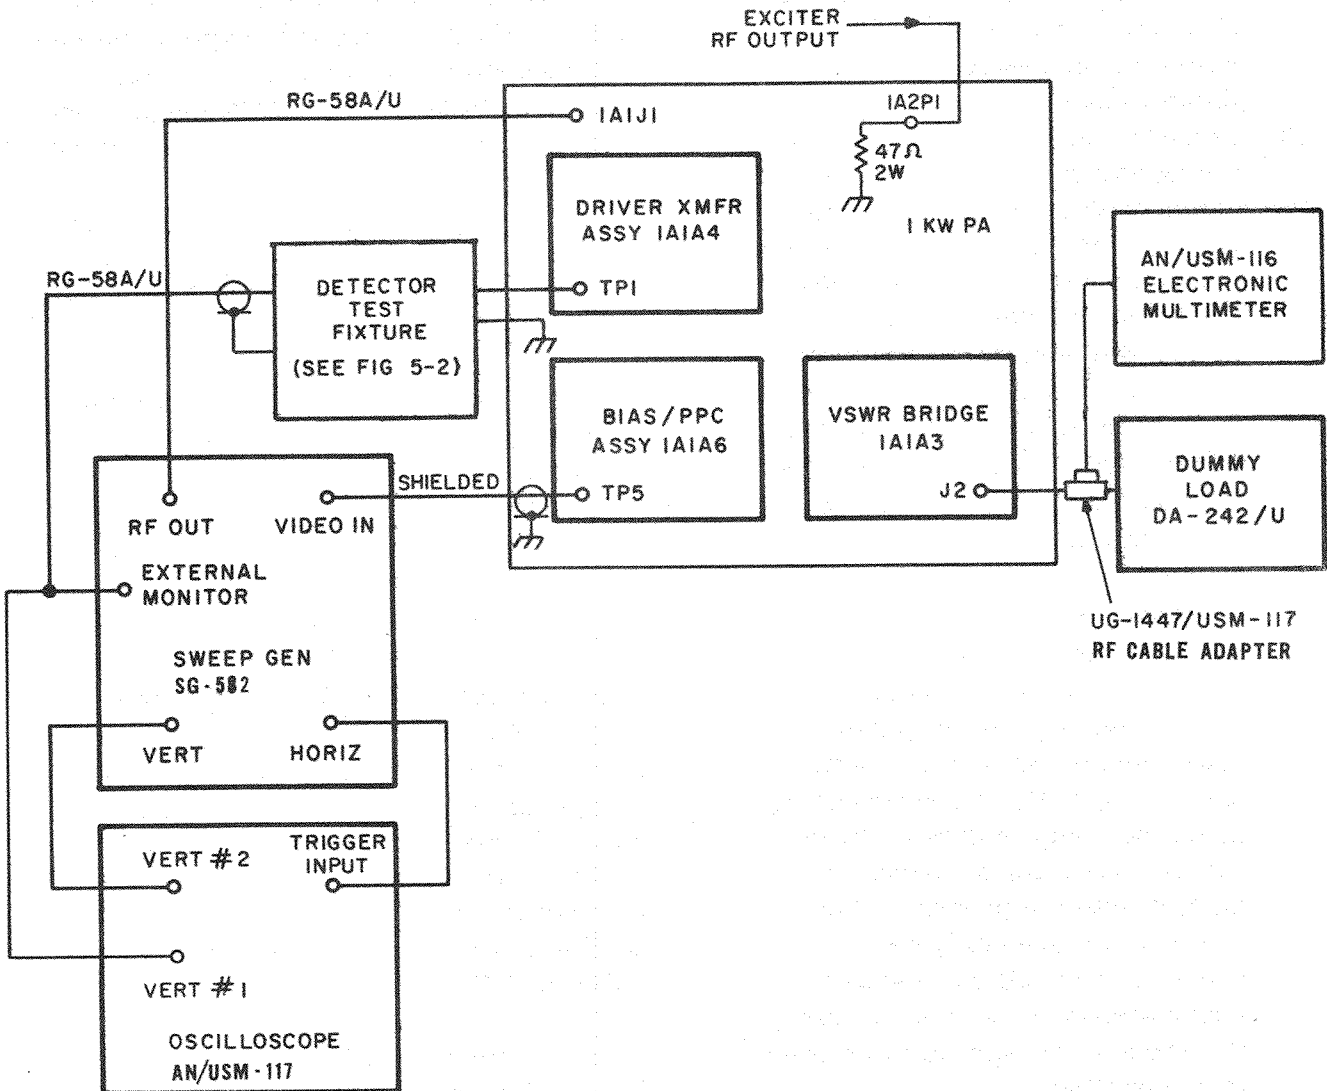

Figure 5-4. Final Transformer Alignment Test Setup.
b. Connect test equipment with 1 KW PA to provide test setup illustrated by figure 5-4.